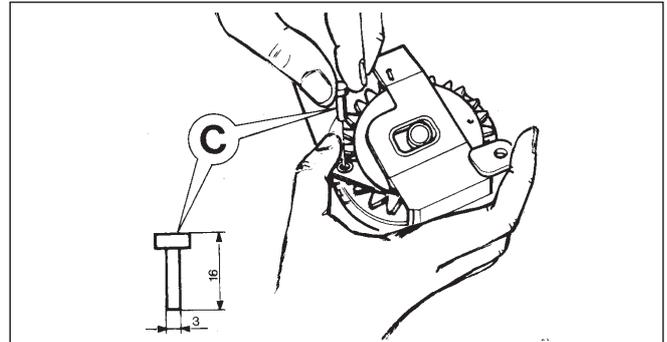

Fig. 20
- Before dismantling, the recoil spring must be locked by inserting pin **C**. (Fig 20).
- Remove locking pin (Fig 20-C) and slowly release spring.